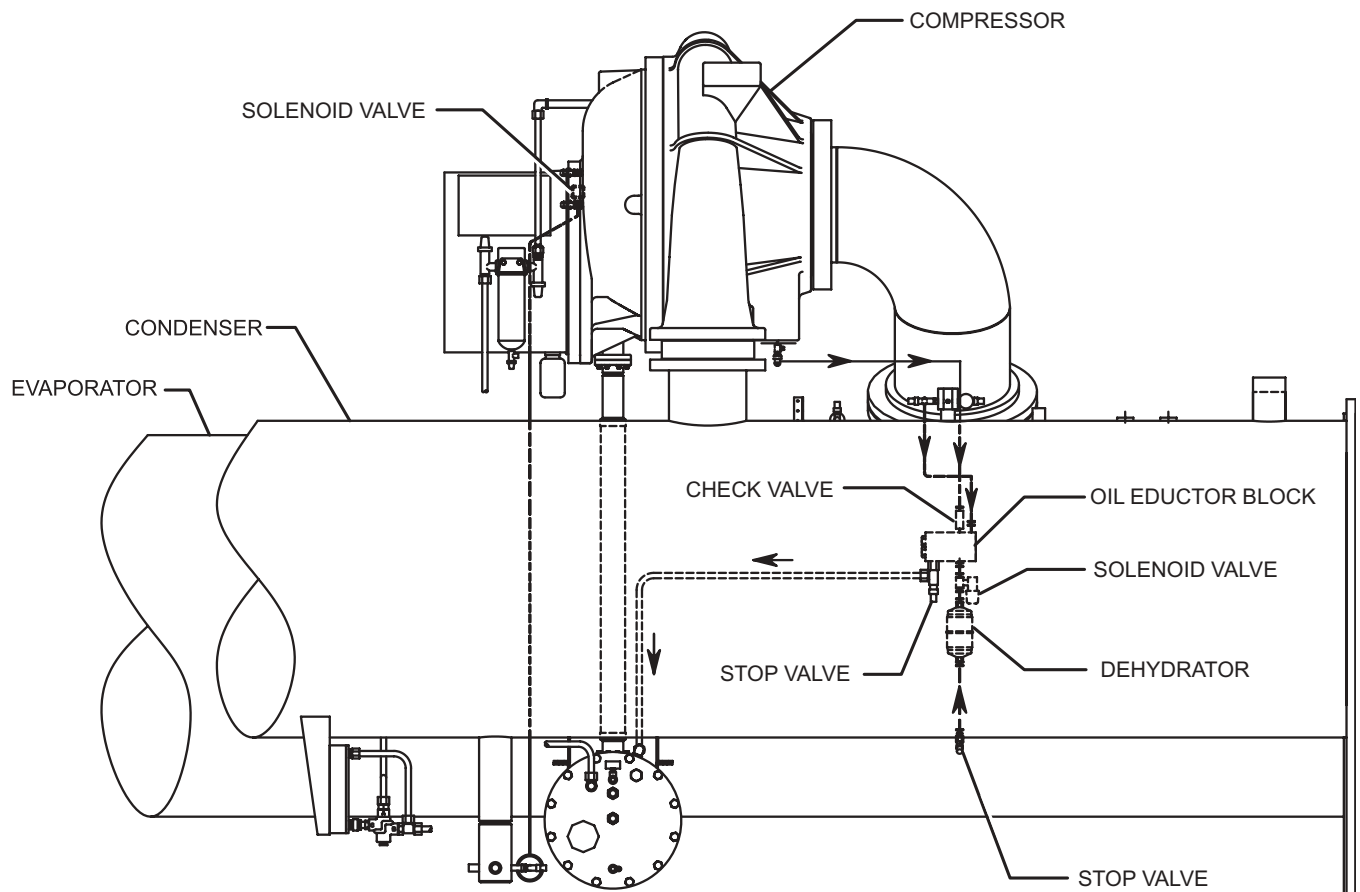

FIG. 9 – OIL RETURN SYSTEM
The oil return system continuously maintains the proper oil level in the compressor oil sump. (See Fig. 9.)
2. Remove the dehydrator. Refer to Figure 9.